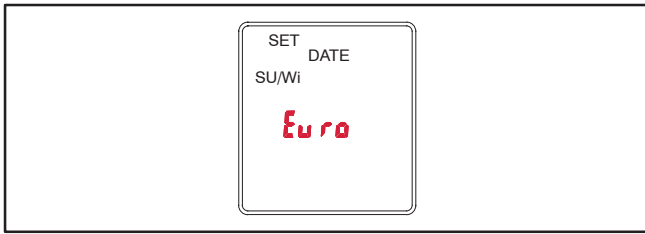

FIGURE 8. SUMMER/WINTER CHANGE OVER MENU
- 5.. Press the + or – buttons until the correct month (1 thru 12) is displayed. Press the **OK** button. The summer/winter changeover menu is displayed with the selected region flashing (see Figure 8).